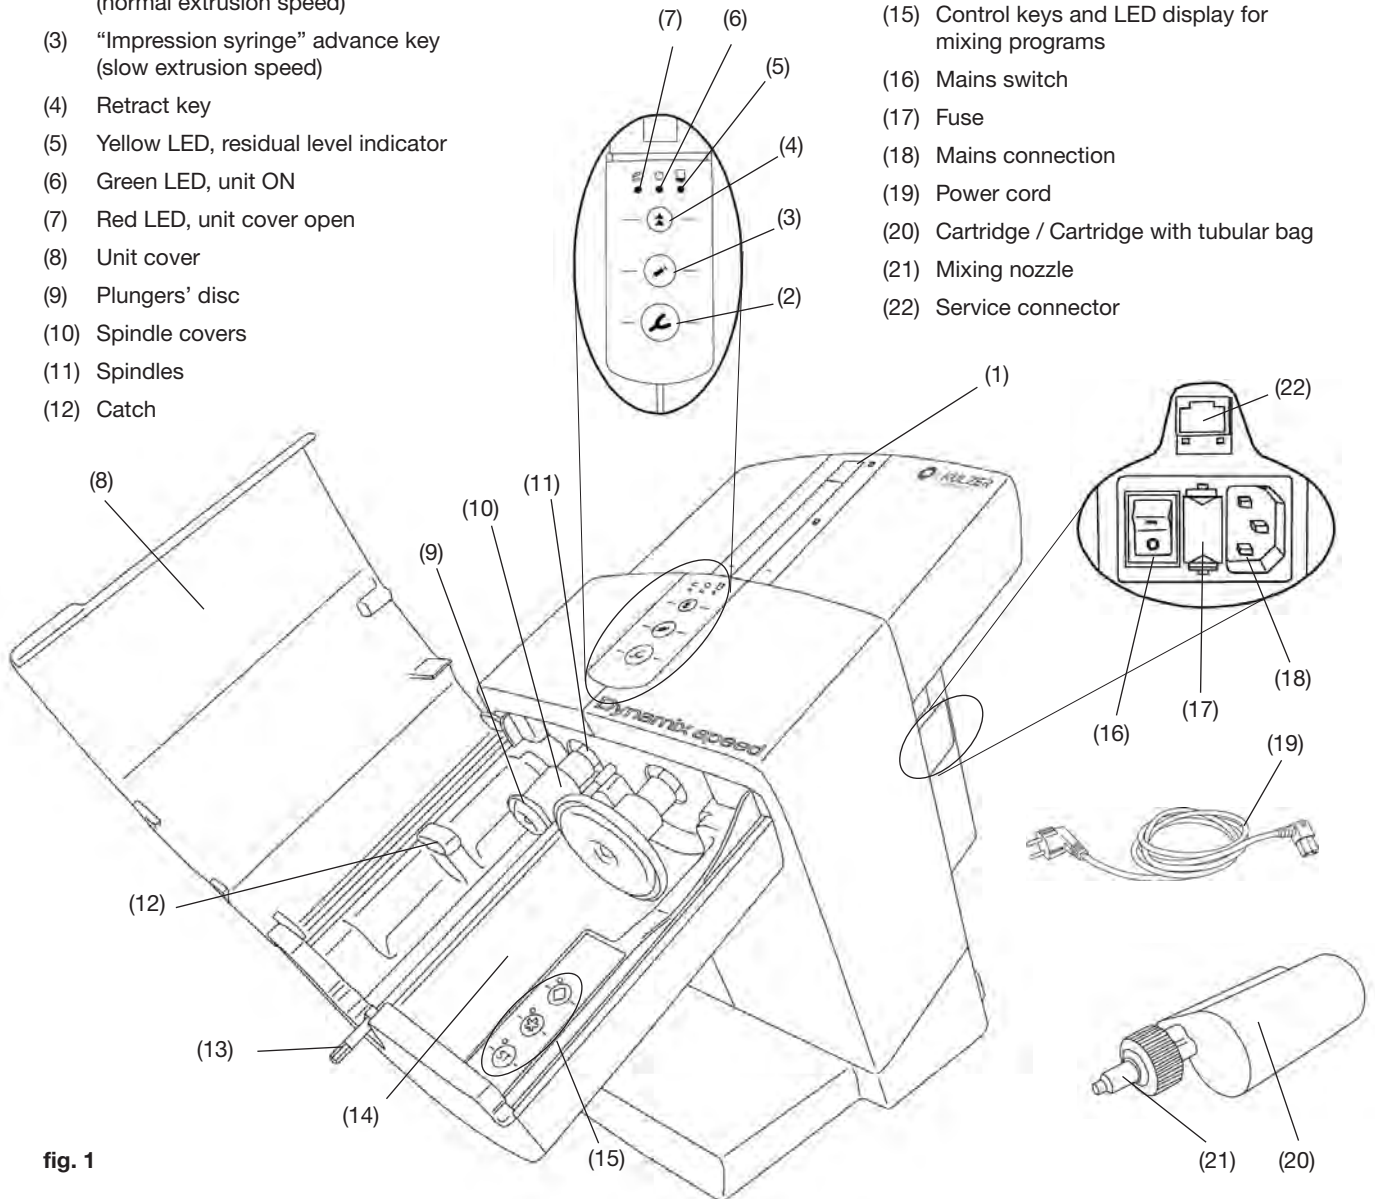

fig. 1
- Connect the provided power cord (19, fig. 1) to the main connection socket (18).
- Switch the unit on at the main power switch (16).
- Press the retract key (4).
- The plungers (9, fig. 1) retract to their home position where they stop.
- Open the unit cover (8, fig. 1).
- Remove the shipping restraint (23).
A cartridge can only be installed or replaced if both plungers (9, fig.1) are in their home position.
- Close the unit cover (8, fig. 1).
- Place cartridge (20) in unit. Please make sure that the cartridge is fitted into place under the catch (12).
- Select mixing program (15), cf. also section 5.1.1. Information on the mixing program can be found on the cartridge in the form of an “asterisk” * or “diamond” ◆ symbol.
The cover will only close if the cartridge has been properly installed. The red “Unit cover open” LED (7, fig. 1) will remain on until the unit cover has been properly closed.
- Impression syringe (3), slow extrusion speed.
- The mixer shaft is activated in order to allow the hexagonal end (13, fig 1) to thread itself into the mixing nozzle.